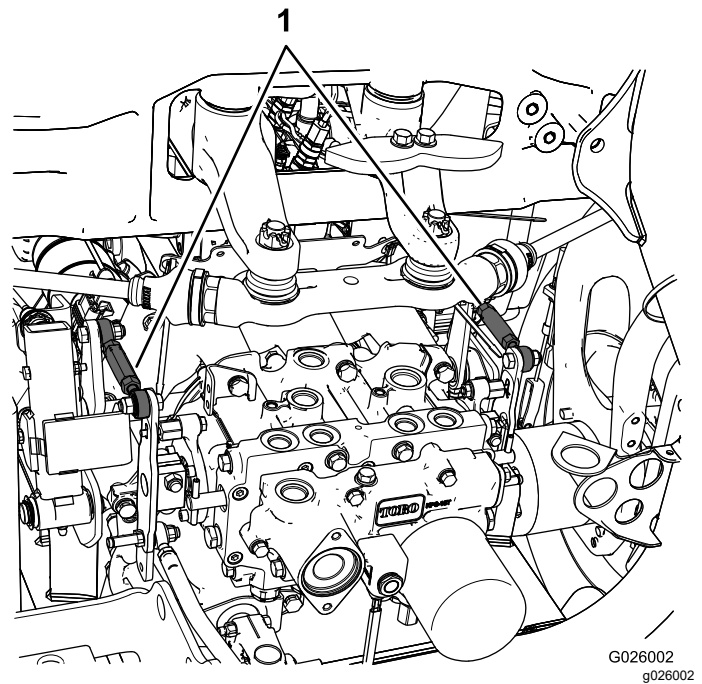

Figure 48
- If the left rear tire is rotating, loosen the jam nuts on the left side transmission control rod (Figure 48).